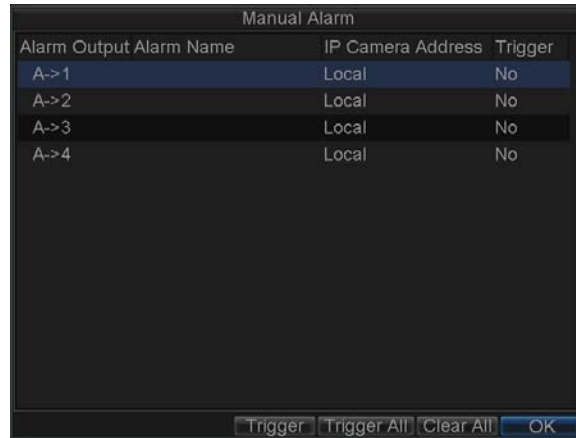

Figure 13. Manual Alarm Menu
1. Click Menu > Manual Alarm to enter the Manual Alarm menu (Figure 13).